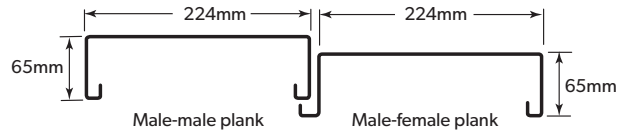

Figure 1
- If the ROOFTRAK® is to be parallel to the roofing ribs: position the support bracket centrally across the ribs, ensuring that it is square to the roofing ribs (Figure 1).
Position the second and subsequent support brackets on a rib nominally 1500mm from the previous support bracket (Figures 1 and 2). Use a string line and/or square to ensure a straight run.